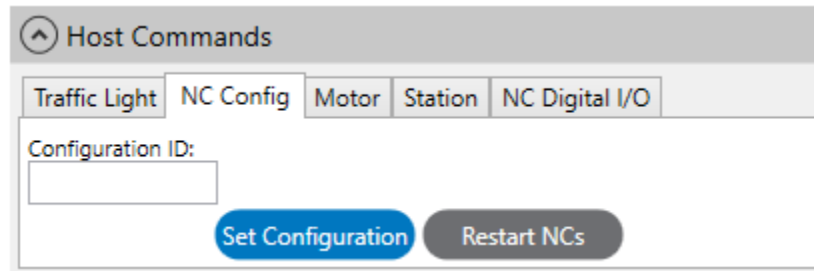

Figure 2-85: Host Commands Section – NC Config Tab
Use the **NC Config** tab in the **Host Commands** section of the **Settings** panel, which is shown in Figure 2-85, to select and activate a Managed Node Controller Configuration File for use during testing. Managed Configuration files must already be uploaded to all node controllers in the system.
2. In the **Host Commands** section, select the **NC Config** tab (see Figure 2-85). See NC Config Tab on page 182 for detailed descriptions of all items.